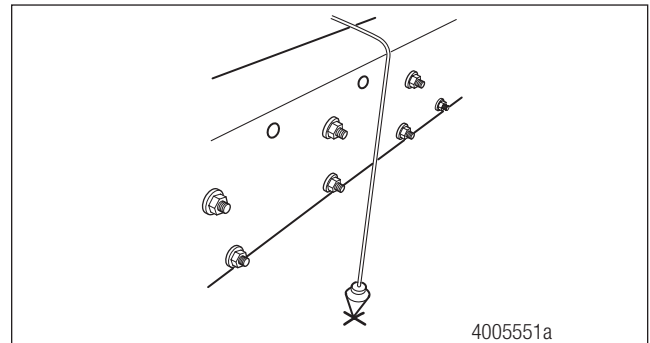

Figure 14.29
2. Attach a plumb bob to the frame rail in line with the transmission universal joint. Mark a point on the ground just below the plumb bob. Figure 14.29.